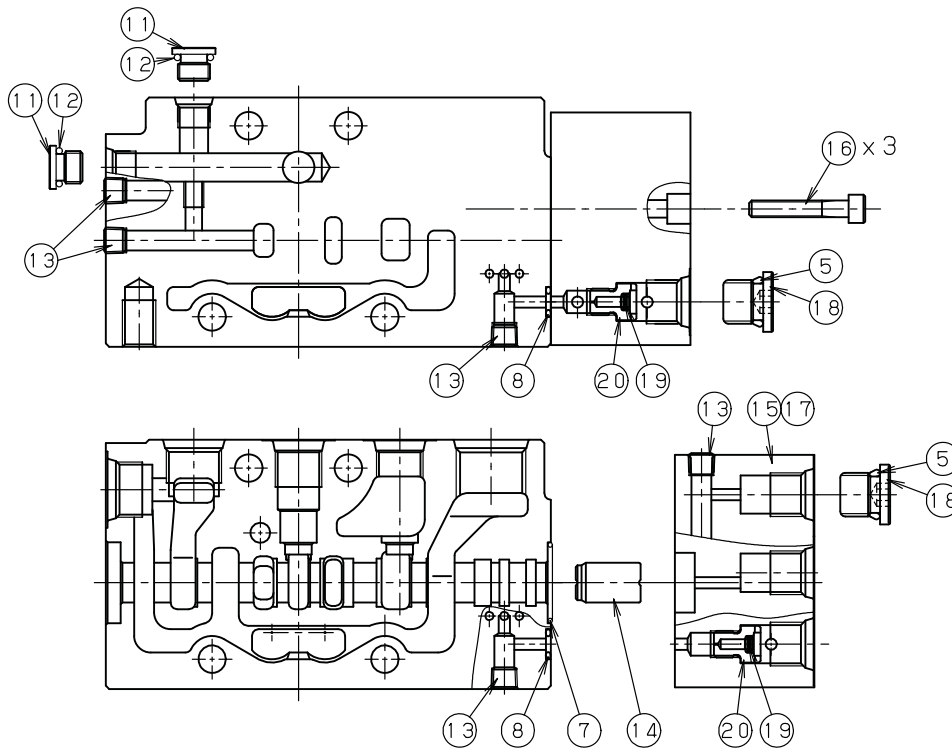

Fig.11 P3 Conflux component
**Body-pilot, piston and plugs for P3 conflux component (see Fig.11)**
- ① Remove 3 hex socket head bolts (16) with 4 mm hexagonal wrench.
- ② Body-pilot assy (5,13,15,17 ~ 20) can be removed.